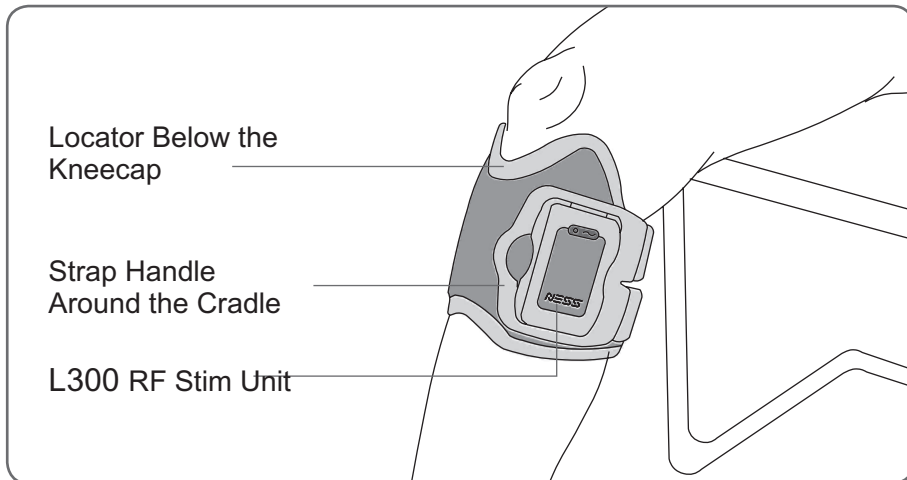

Figure 25: L300 FS Cuff fastened on the right leg.
5. Make sure the L300 FS Cuff is correctly positioned. See Figure 25. If it is not, take off the L300 FS Cuff and reposition it. Adjust the hook and loop fasteners (see Figure 5) to ensure a snug fit.